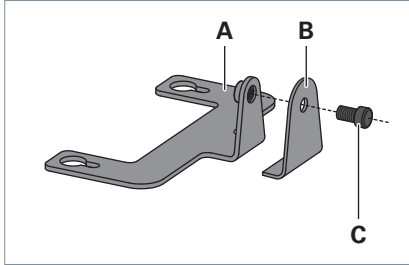

Fig. 8: Mounting the retaining bracket.
- ▶ Mount the retaining bracket by connecting the bracket **A** and the bracket **B** using the screw **C**, see Fig. 8.